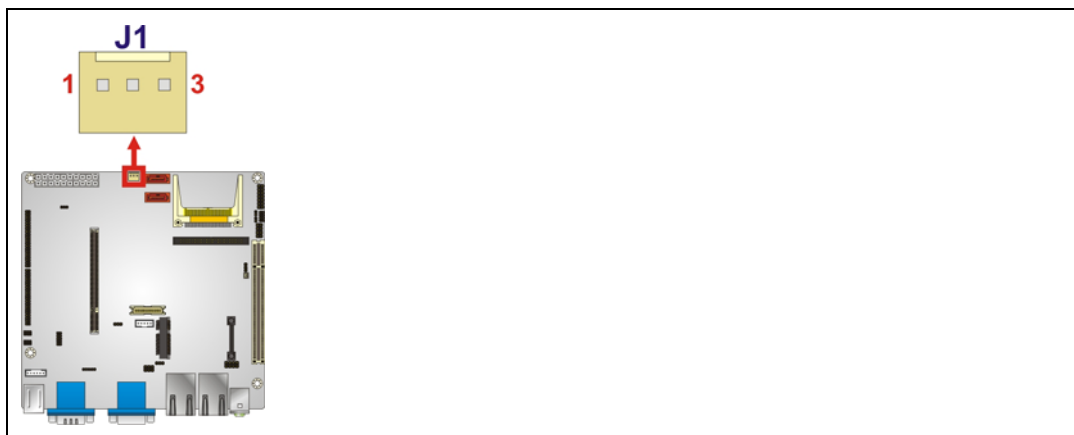

Figure 3-6: +12V Fan Connector Location
- CN Location:** See **Figure 3-6**